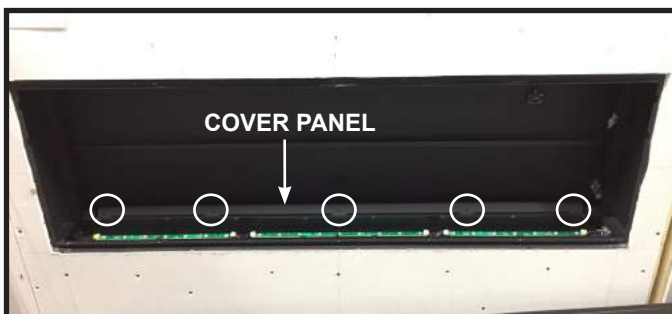

Figure 20
5. Remove the rear LED cover panel. See Figure 20.
10. Re-install the rear LED cover panel. See Figure 20.